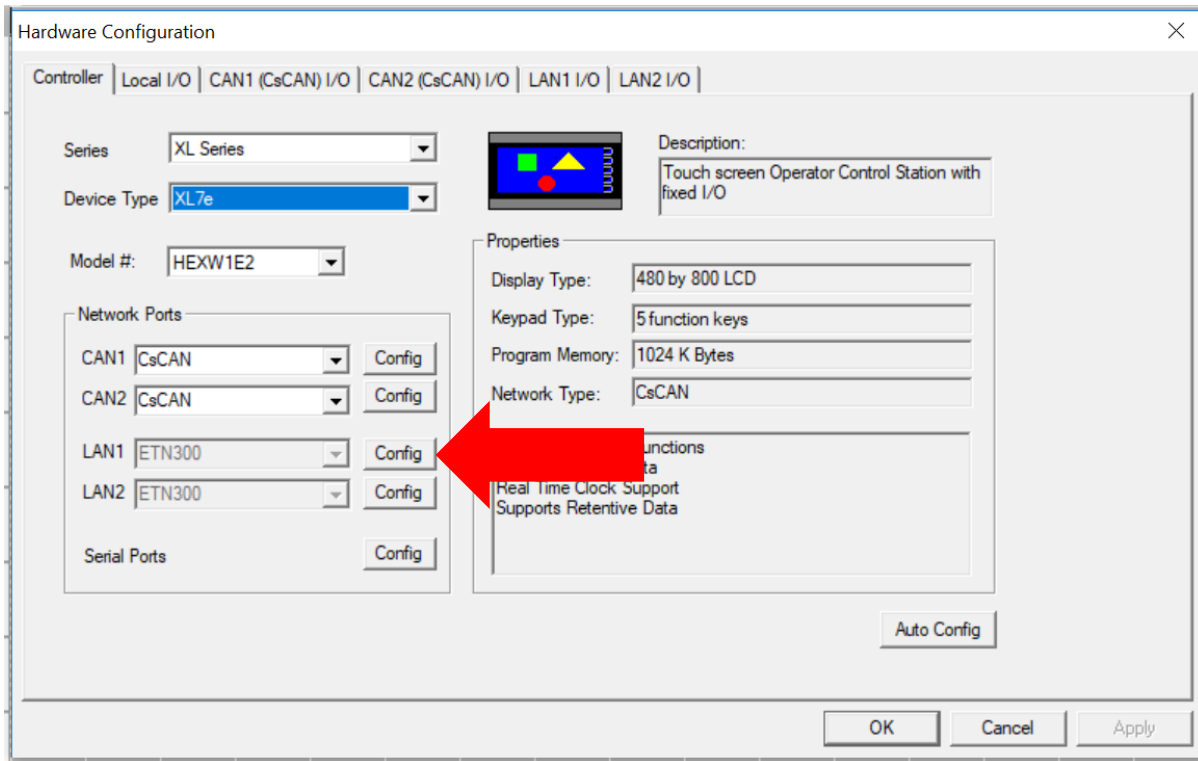

Figure 12.1 - Hardware Configuration Dialog
1. On the main Cscape screen, select the **Controller** → **Hardware Configuration** sub-menu to open the **Hardware Configuration** dialog (Figure 12.1).